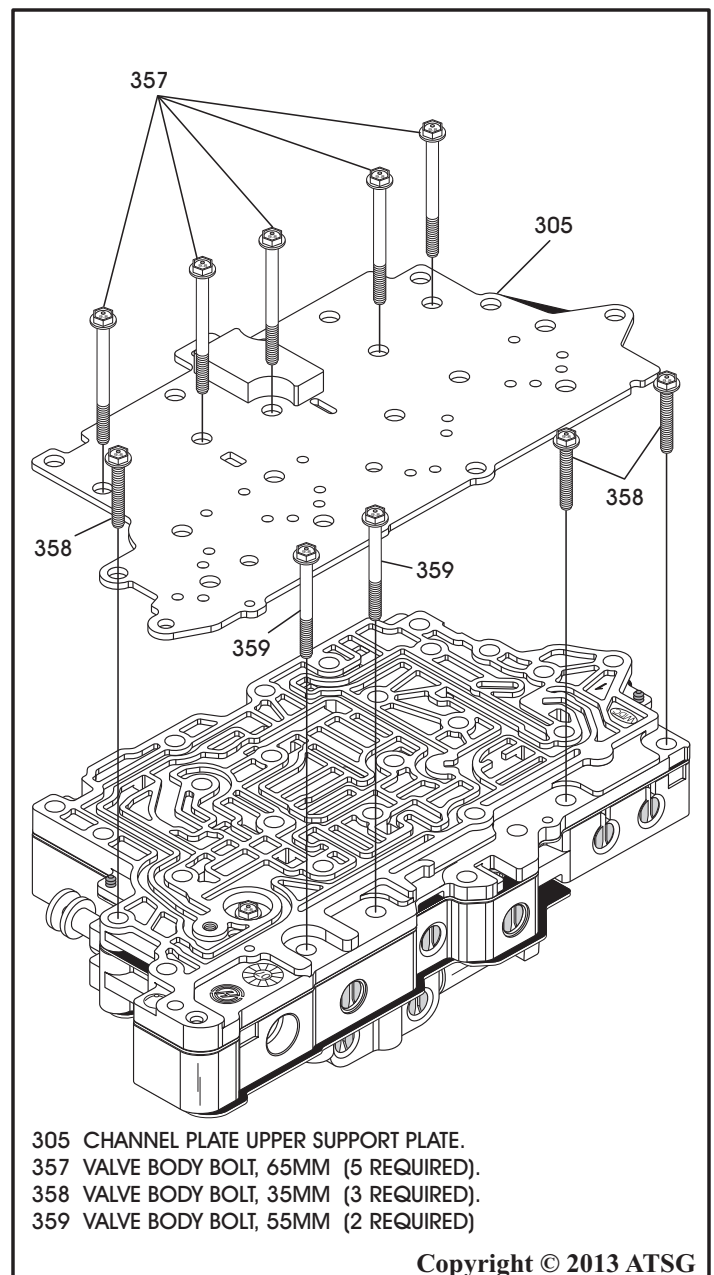

Figure 171
3. Remove the five 65 mm bolts (357) and the one 35 mm bolt (358) that retains the upper channel plate support plate (305), as shown in Figure 171 and remove the upper support plate.
4. Remove the two 55 mm bolts (359) and the two 35 mm bolts (358), as shown in Figure 171.